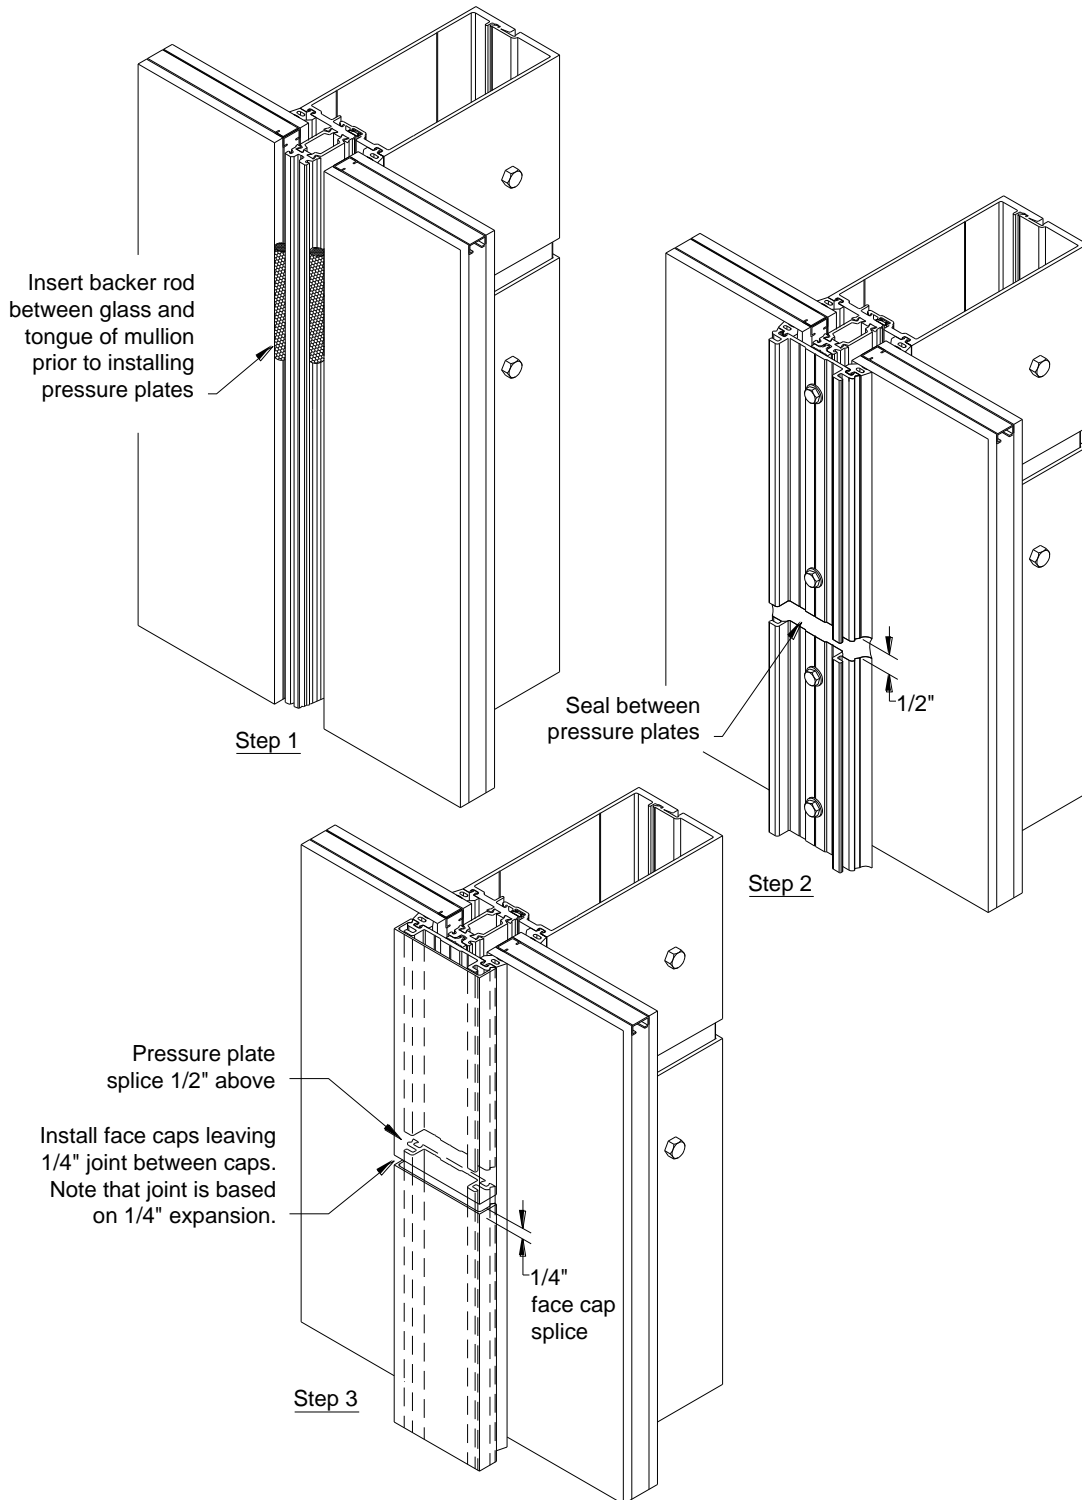

Figure 33: Splice Joint Sealing Instructions
12.3 Offset pressure plates and face covers, sealing pressure plate and face cover joints as shown in **FIGURE 33.**